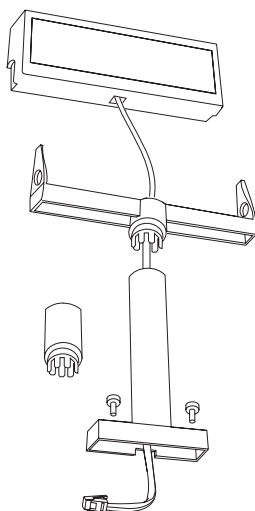

Figure 73. Attaching the distributed customer display cable
- a. Route the distributed customer display cable through the mounting post (and post extension, if used) and plug the cable into the display, as shown in Figure 73.